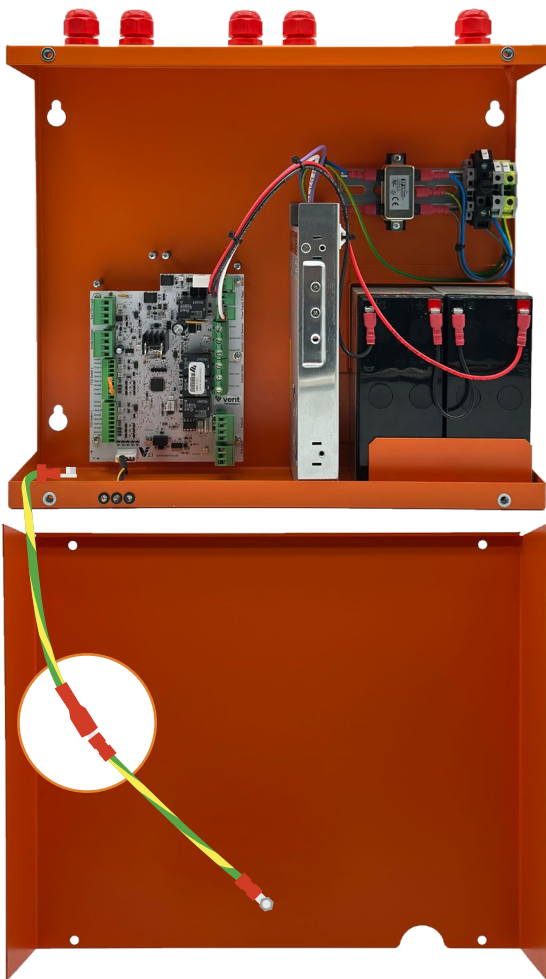

Fig.1
- To avoid damaging the cable, attach the front panel to the lower screw holes of the rear casing, as shown in **Fig. 1**
NOTE: If a Thermostat is also fitted, the Roof Access Key Switch can connect to the AUX port (see Fig. 1).